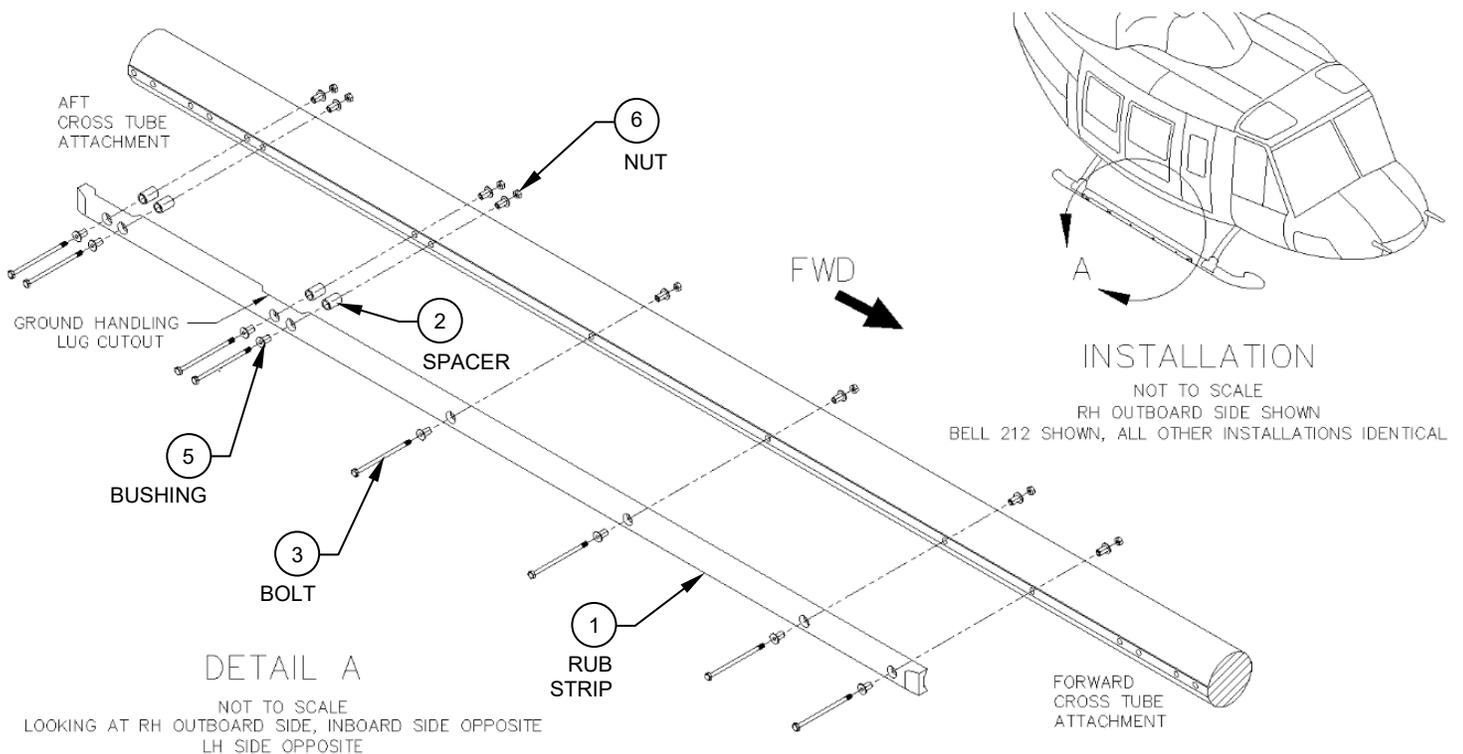

Figure 1
2. Remove nuts, bolts, bushings and spacers from both sides of skid tube. Remove Rub Strip(s) from skid tube. Reference Figure 1.
2. Install Rub Strip (Item 1), Bushings (Item 5), Spacers (Item 2), Bolts (Items 3 or 4 as applicable) and Nuts (Item 6) as detailed in Figure 1.